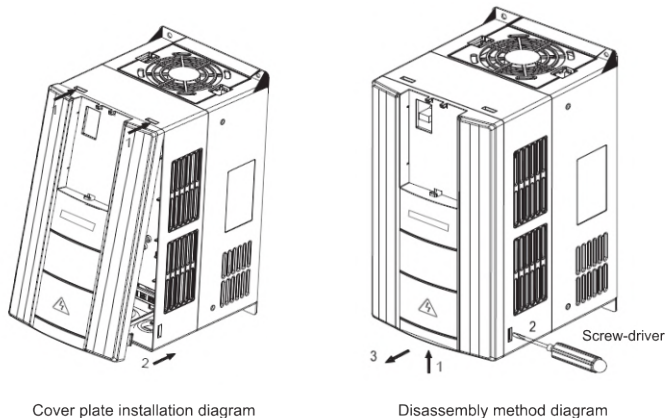

Figure 3-1 Installation diagram
- 1) Install the inverter vertically so that the heat may be expelled from the top. However, the equipment cannot be installed upside down. If there are multiple inverters, parallel installation is a better choice. In applications where the upper and lower inverters need to be installed, please refer to Figure 3-1 "G580M Series Inverter Installation Diagram" and install an insulating splitter.
- 2) The mounting space should be as indicated as Figure 3-1, so as to ensure the heat dissipation space of the inverter. However, the heat dissipation of other devices in the cabinet should also be taken into account.